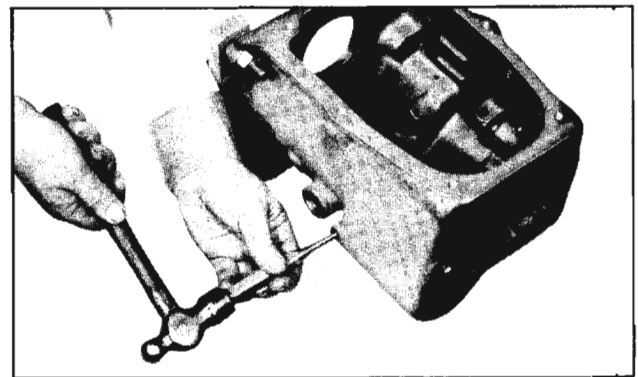

Fig. 11-18 Driving Lock Pin Into Idler Shaft
23. Drive the reverse idler gear shaft lock pin into the shaft. (Fig. 11-18)